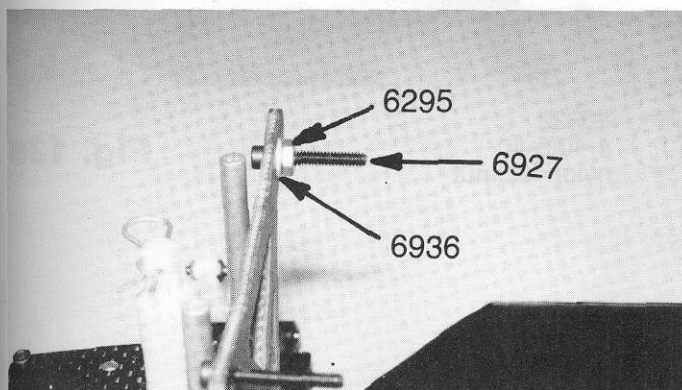

**Fig. 128**
□ **Figs. 128 & 129** (1) From bag #6-11 remove the two long #6480 2.75" rear green springs. (2) Install one spring onto each of the long rear shocks. (3) Leaving the shaft extended, slide the red O-ring to the top of the shaft (4) and then slide on the spring and seat it against the spring clamp clamp. (5) Compress the spring and slide one of the #6474 spring cups onto the shaft and over the #6471 shock rod end. Make sure the red O-rings are between the spring cup and the shock body.
(8) Remove the two remaining #8232 1.4" front black springs from bag #6-11. Repeat the steps used in fig. 128, but using the #8232 springs, and adjust your spring clamps with a spacing of 3/8" (.375" or 9.5mm) as shown in fig. 129.